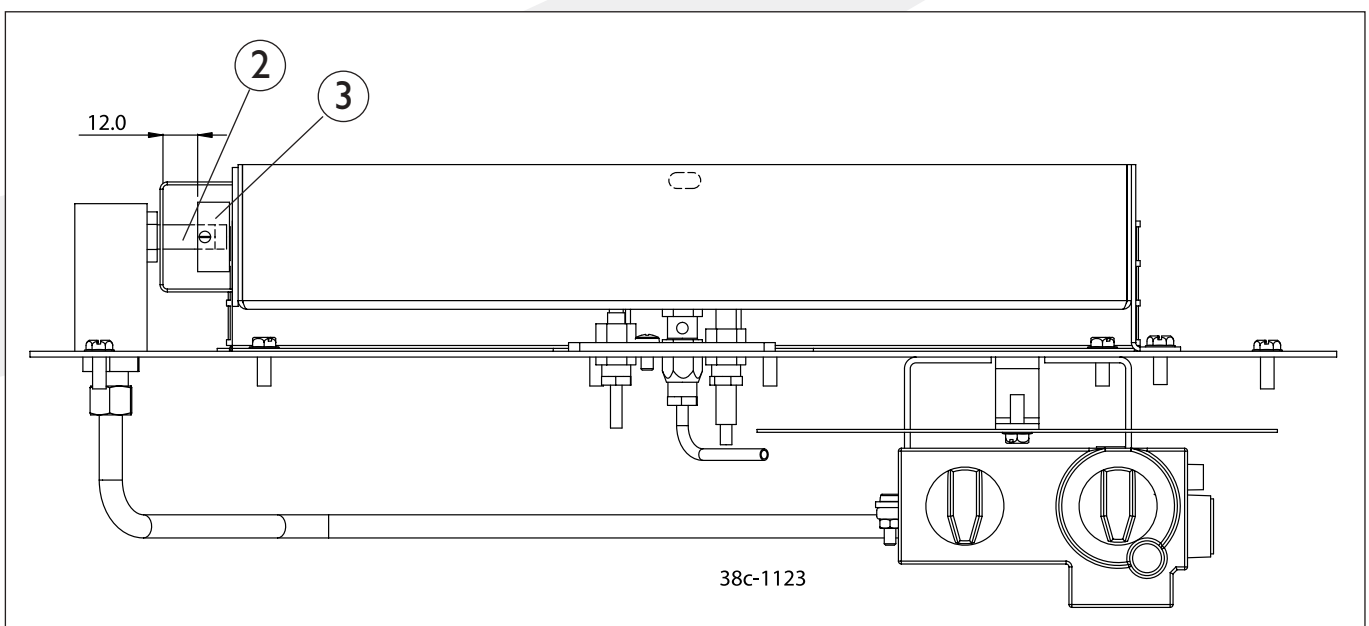

fig. 2
2. Hovedbrennerdyse (fig 2)
4. Strupering (fig 2)